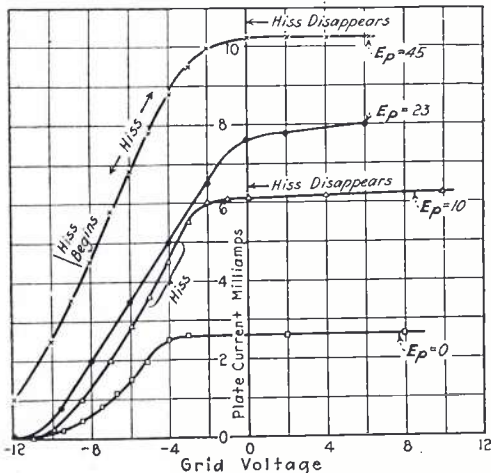

Fig. 5. K Na tube 1924—Showing peculiarities in characteristic curves for tube two years old
3. "Hard" and "Soft" Tube Peculiarities. Attention is again called to the fact that increasing the filament temperature gives the "gassy" potassium sodium alloy tube characteristics of a high vacuum amplifier. This is especially true of the shape of the characteristic curves of such tubes also illustrated in the bulletin referred to. As a matter of interest Fig. 5 is given showing how a potassium sodium alloy tube behaves during the change in grid potential indicated by the abscissa of the curves. While the data taking operation is proceeding a hissing sound occurs in phones in the plate circuit, then the ranges of  $E_g$  indicated, as if ionization were setting in, but the curves are not "kinky" as those of gas content tubes, and for higher values toward  $(+E_g)$  the hissing ceases. This tube in use gives both the sensitive detector performance on weak and strong signal voltages, and the efficient amplification of strong amplifier input voltages. In either service it is a considerable improvement over the same tube not primed with the alloy. The degree of rise and fall of plate current during the warming up process and the attendant hissing noise were decreased by more thoroughly outgassing the electrodes with the aid of a high frequency induction furnace. However, such tubes were seemingly just as sensitive as those which were more "gassy." The transient plate current characteristic shown in Fig. 1 could not be eliminated by heat treatment and long continued evacuation, hence it seems that the transient "warming up" current and hissing is due to increasing activity of the alloy molecules as the alloy vapor pressure increases.